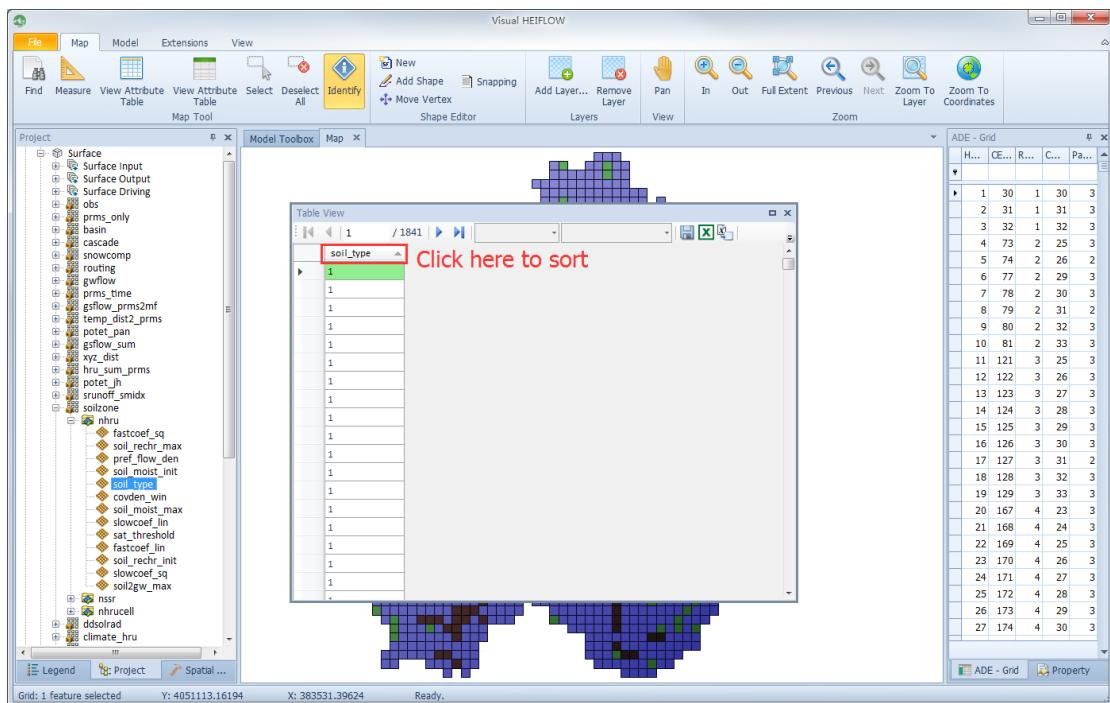

Figure 5-9. Table View of the soil_type parameter
- 9) Double-click on soil_type parameter, the Table View presents values of this parameter (Figure 5-9):